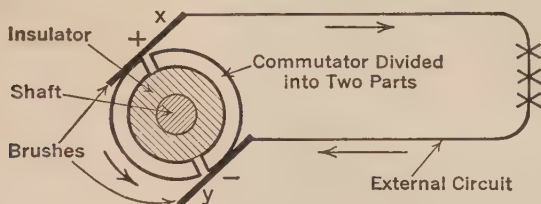

FIGURE 175.—A COMMUTATOR.
tator is used to change the alternating current in the armature to a direct current in the external circuit. Figure 175 shows how an alternating current (A. C.) is changed to a direct current (D. C.)
- C. Note the electromagnet on a pivot between the permanent poles of the field magnet. The wire coil is wound from end to end and the two free ends are connected with the two halves of a split brass ring or commutator (Fig. 175). When current is sent into the field magnet and also the armature through the brushes, the electromagnet begins to revolve. Why? With each half turn of the armature, the + brush leaves one segment and comes into contact with the other. At once the current in the armature *reverses its direction*. Each armature pole becomes the same as the field magnet pole next to it. They will repel each other for a half turn until the current is again changed. Thus the armature keeps revolving and the current changing its direction. What device causes the changing?